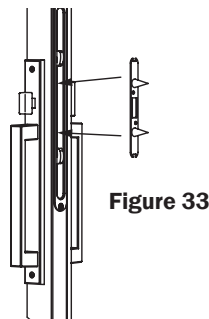
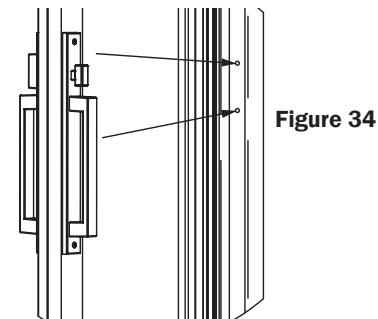

Figure 33
Figure 34
37. If a 2-panel door, to locate the keeper position on the jamb, place black locator within the latch (Fig. 33) and close the active panel strong enough to dimple the side jamb (Fig. 34).